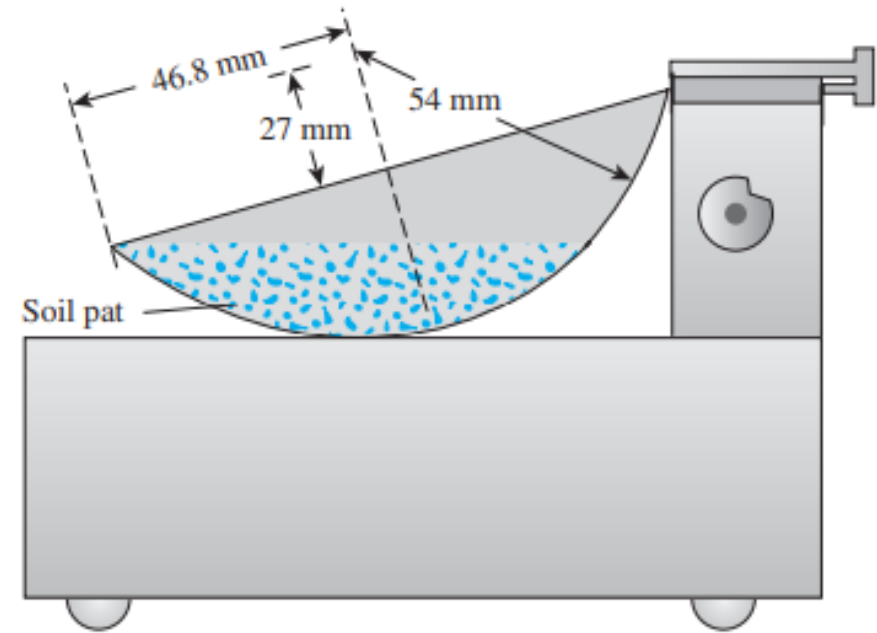

**Figure 4.2** Liquid limit test: (a) liquid limit device; (b) grooving tool; (c) soil pat before test; (d) soil pat after test
- Liquid limit : the moisture content, in percent, required to close a distance of 12.7 mm along the bottom of the groove (see Figures 4.2 c and d) after 25 blows.